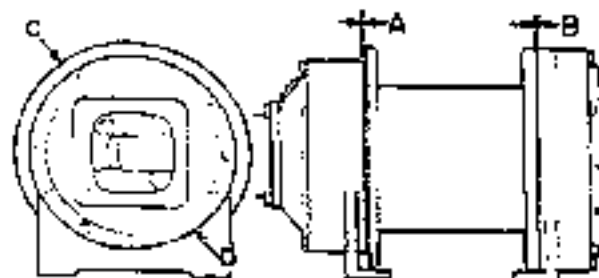

Figure 37
- 19 Align the winch upon installation as follows: With feeler gauges, measure distances A and B approximately 180° apart on the drum at locations C and D. See Figure 37. Distance A should be the same with .020" at locations C and D. Likewise for distance B. Place shims under the mounting feet until these distances A and B do not have to be equal.